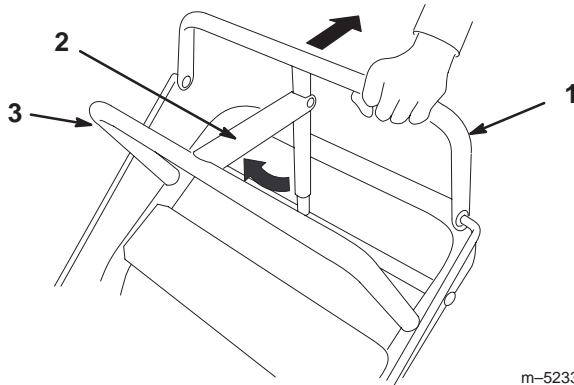

Figure 17
1. Pull the upper control bar (Fig. 17) rearward and hold it in this position.
2. Lift the parking brake lock (Fig. 17) up and gradually release the upper control bar. The brake lock should stay in the set (locked) position.
1. Pull rearward on the upper control bar (Fig. 17). Lower the parking brake lock to the released position.